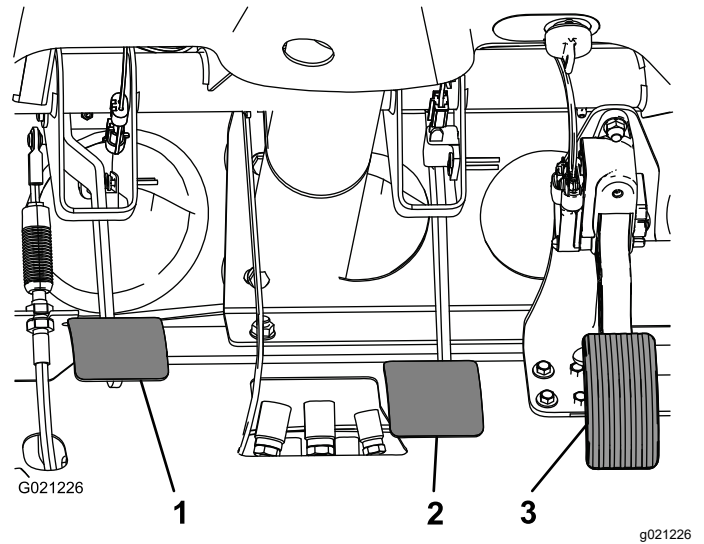

Figure 66
2. Lift up on the brake pedal (Figure 66) until it contacts the frame.
3. Loosen the jam nuts securing the yoke to the master cylinder shaft (Figure 66).